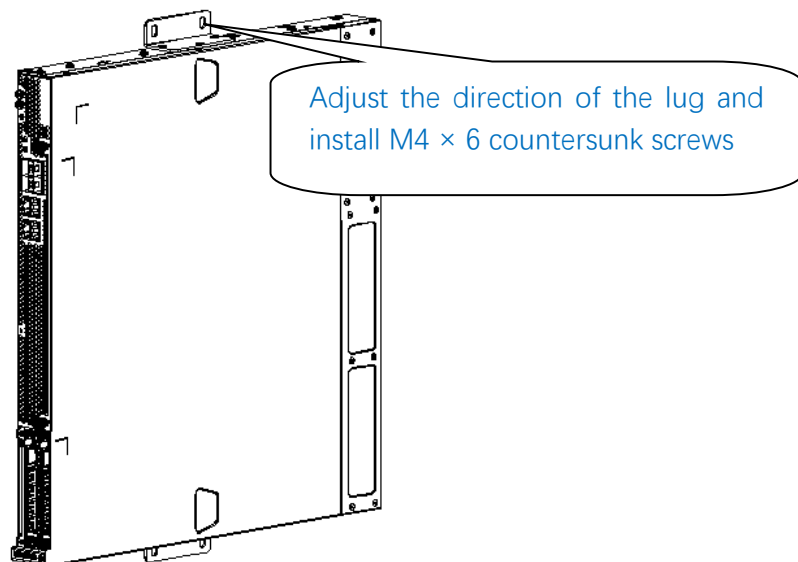

Figure 3-1 Installation Diagram of Case Lug
Step 1: Take the AU out of the package, and adjust the installation direction of the lug according to the figure, as shown in Figure 3-1 Installation Diagram of Case Lug